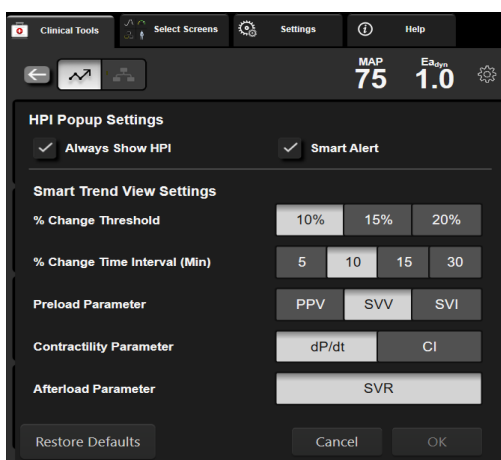

Figure 14-9 HPI secondary screen – smart trend view settings
- 3 Disable the **Always Show HPI** option button. See figure 14-9 on page 259.